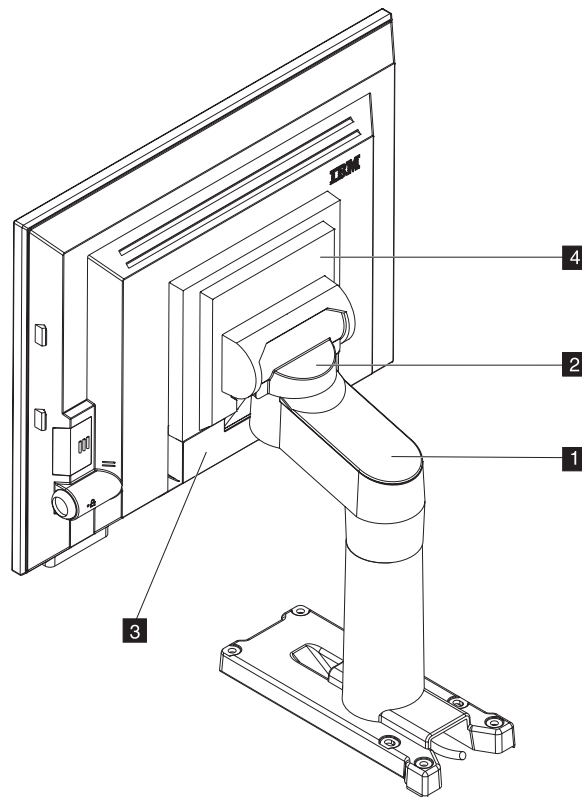

Figure 34. Integrated pedestal covers
- b. Place the display on the pedestal mounting bracket (see Figure 34).
- a. Attach the trough cover ( **1** in Figure 34) and cable cover ( **2** ) to the mounting arm, snapping the tabs on the sides of the cover into the small holes on the sides of the mounting bracket.